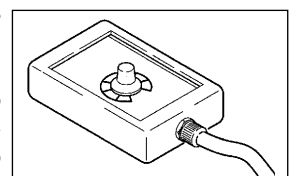

Fig. 6
2.2.2 Potentiometer remote control RC16 for MMA and TIG welding (Fig. 6)